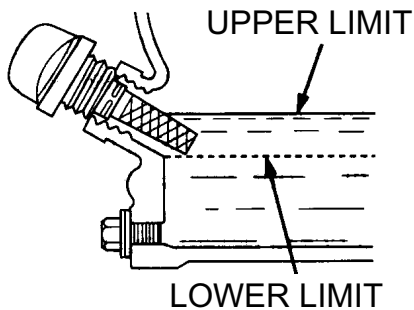

Figure 5. Oil Level
4. If the oil level is low (Figure 5), fill to the edge of the oil filler hole with the recommended oil type (Table 3). Maximum oil capacity is 1.16 qts. (1.1 liters).